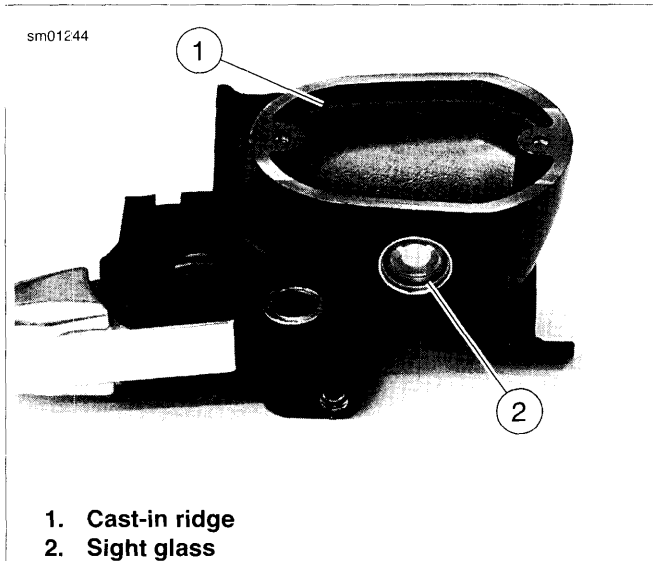

Figure 2-54. Filling Front Master Cylinder Reservoir
- See Figure 2-54. Do not use sight glass (2) to determine maximum fluid level. Sight glass should only be used as a visual indicator that fluid level is low and needs attention.
5. See Figure 2-54. Add enough HARLEY-DAVIDSON D.O.T. 4 BRAKE FLUID to reservoir to bring fluid level even with ridge (1) cast into inside of reservoir, about 1/4 in. (6.35 mm) below top edge.
8. See Figure 2-54. Add enough HARLEY-DAVIDSON D.O.T. 4 BRAKE FLUID to reservoir to bring fluid level even with ridge cast into inside of reservoir, about 1/4 in. (6.35 mm) below top edge.
13. See Figure 2-54. Add enough HARLEY-DAVIDSON D.O.T. 4 BRAKE FLUID to reservoir to bring fluid level even with ridge (1) cast into inside of reservoir, about 1/4 in. (6.35 mm) below top edge.